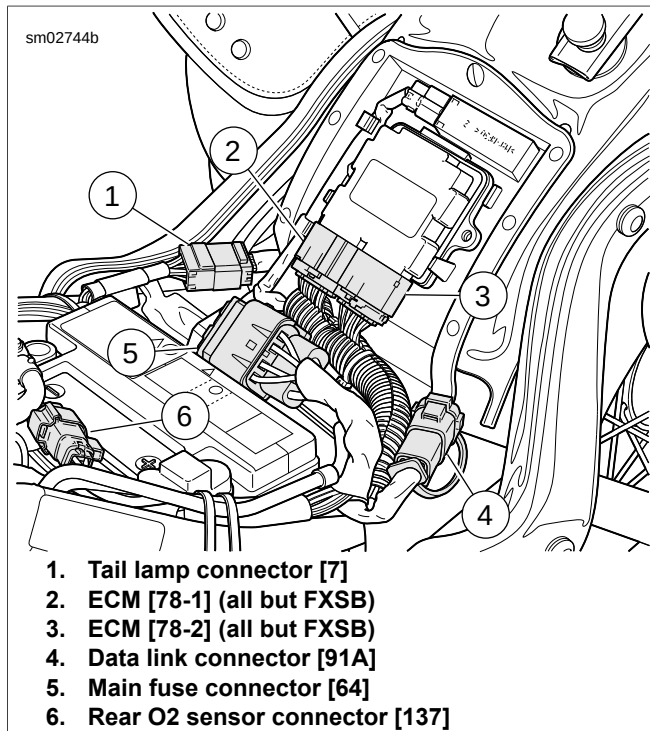

Figure 7-105. Connectors Under Seat
13. See Figure 7-105. Attach connectors under seat.
- a. Secure main fuse connector (4) in cover.